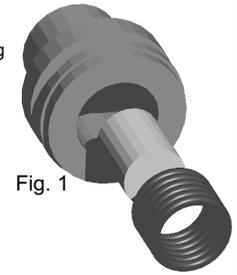

Fig. 1
2. Place the six delay O-rings (small, 3/32" thick) around the delay element. No grease should be used (Figs 1 and 2).